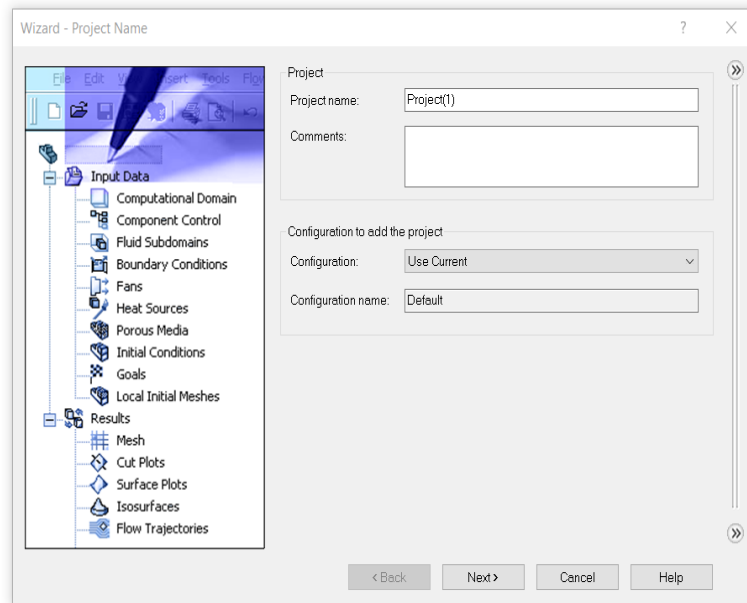

Figure 1: Project name
3. After clicking the wizard button, a box will appear which is shown in the figure1